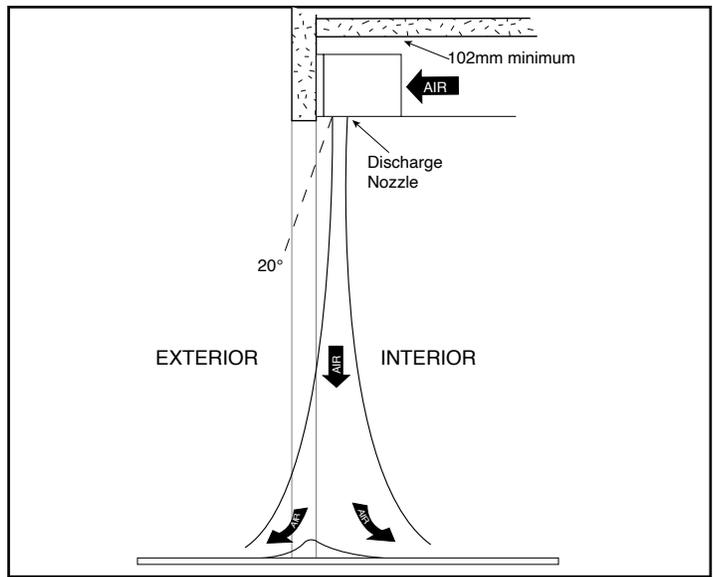

Figure 1
- G. When determining the mounting location for the unit(s), make sure that nothing interferes with the curtain of air developed when the discharge vanes are directed from 0° to 20° toward the door opening. If the air stream strikes any obstruction (the top edge of the doorway, a door opening device, etc.), the effectiveness of the unit will be greatly reduced. **See Figure 1.**